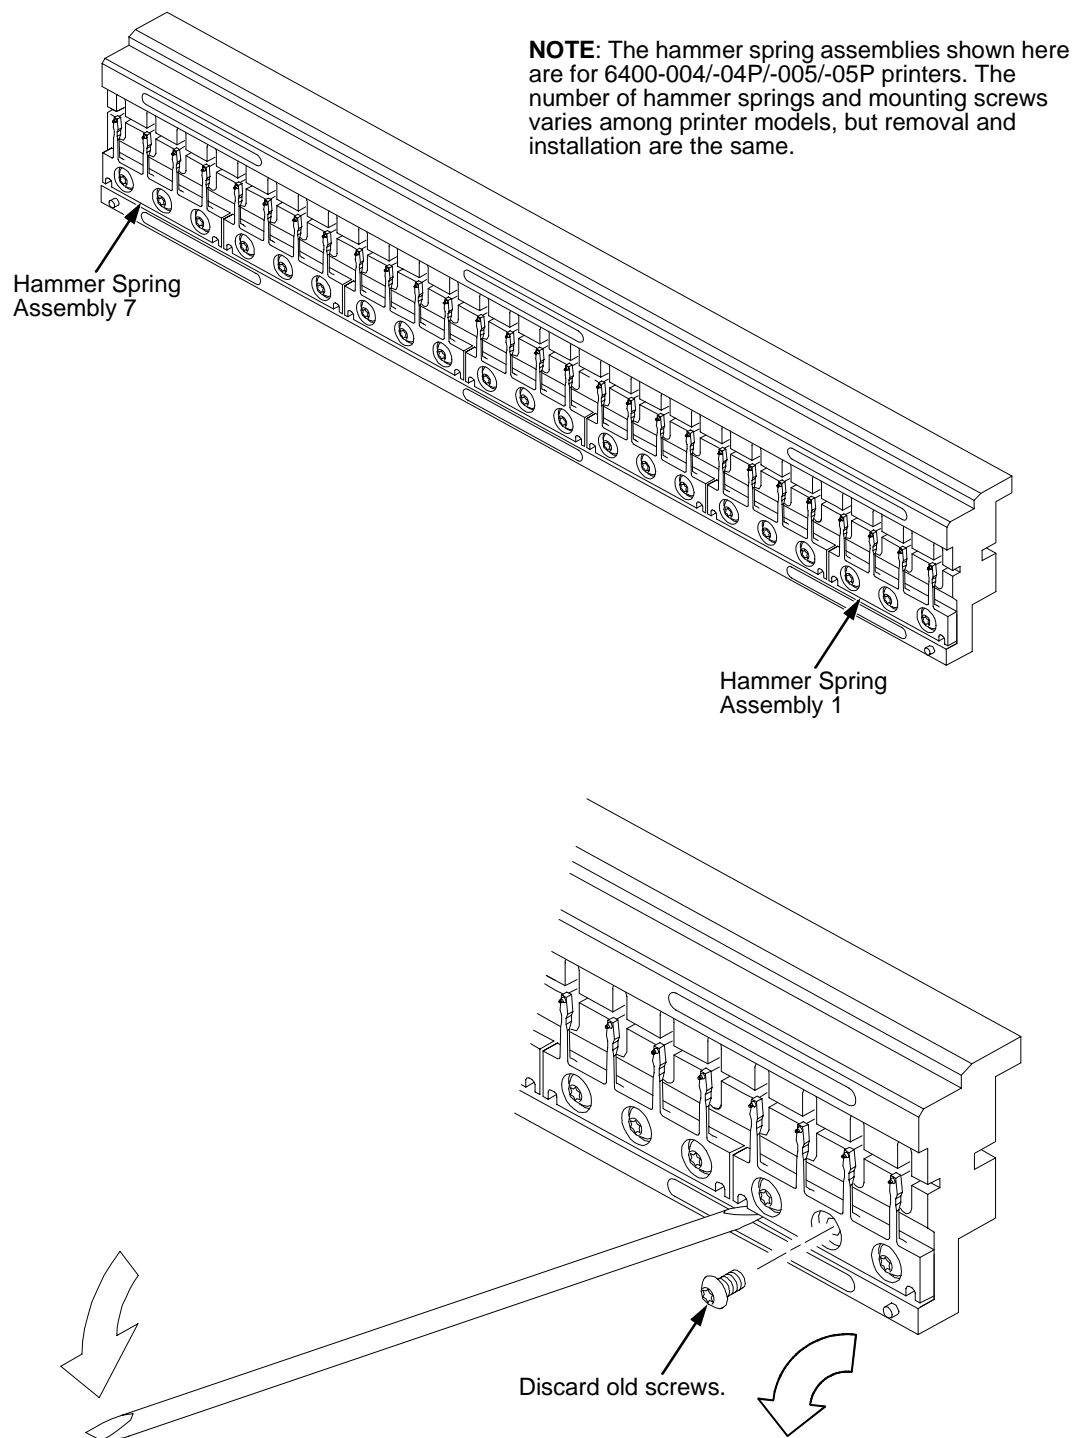

Figure 33. Hammer Spring Assembly, Removal
5. Remove the mounting screws from the old hammer spring assembly. (See Figure 33, page 212.)
6. Handling the hammer spring assembly by the mounting base only, gently pry the old hammer spring assembly off its mounting pins. (See Figure 33, page 212.)